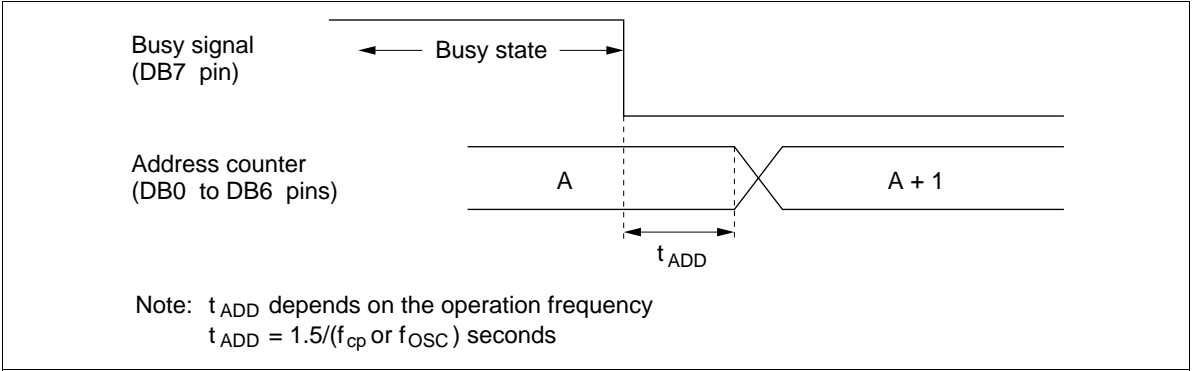

Figure 10 Address Counter Update
* After execution of the CGRAM/DDRAM data write or read instruction, the RAM address counter is incremented or decremented by 1. The RAM address counter is updated after the busy flag turns off. In Figure 10, t_{ADD} is the time elapsed after the busy flag turns off until the address counter is updated.